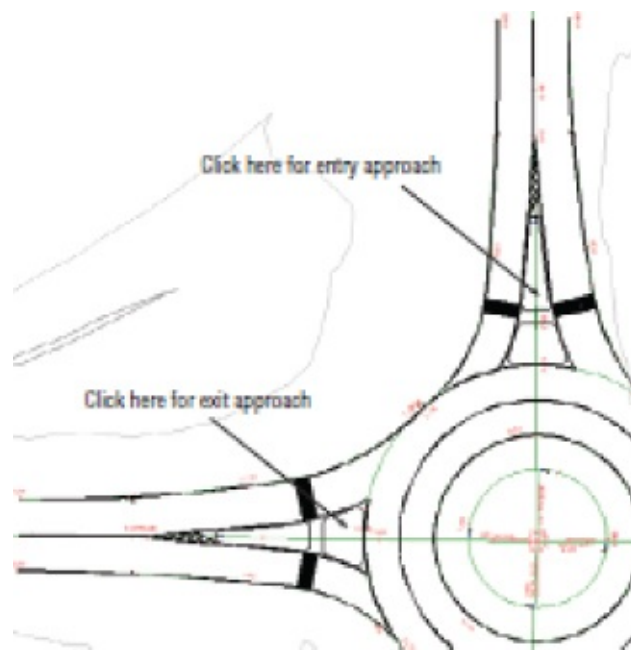

Figure 10.66 Entry and exit approach alignments for the slip lane
4. When prompted for the exit approach, select the west approach alignment inside the curb island, as shown in Figure 10.66.